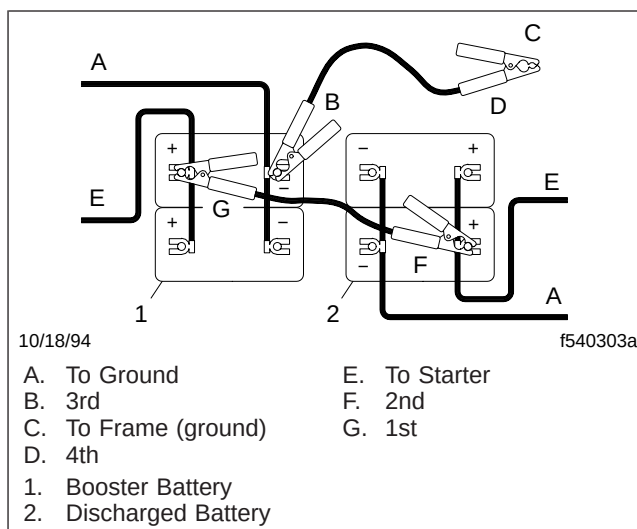

Fig. 13.5, Jumper Connections
3. Connect an end of one jumper cable to the positive terminal of the booster battery (or jump-start post if equipped), and connect the other end of the cable to the positive terminal of the discharged battery (or jump-start post if equipped). See **Fig. 13.5**.